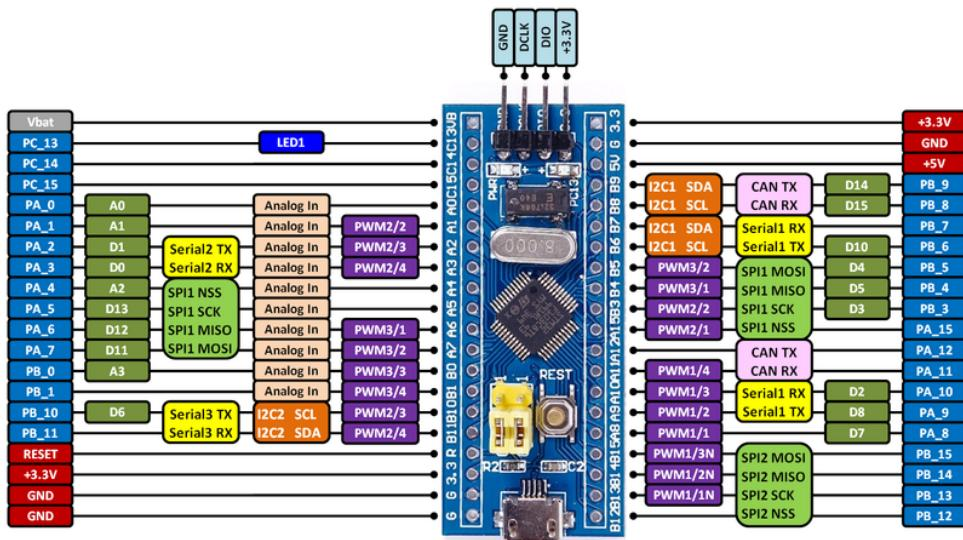

Fig. 13.1: Pin Connections of STM-32
- The STM32F103C8T6 micro-controller in Fig. 13.1 has two ground pins, few analog input pins and few digital pins that can be used for both input as well as output. It has one Vcc (3.3V) pin that can generate 3.3V. In the following exercises, only the GND, 3.3V and digital pins will be used.